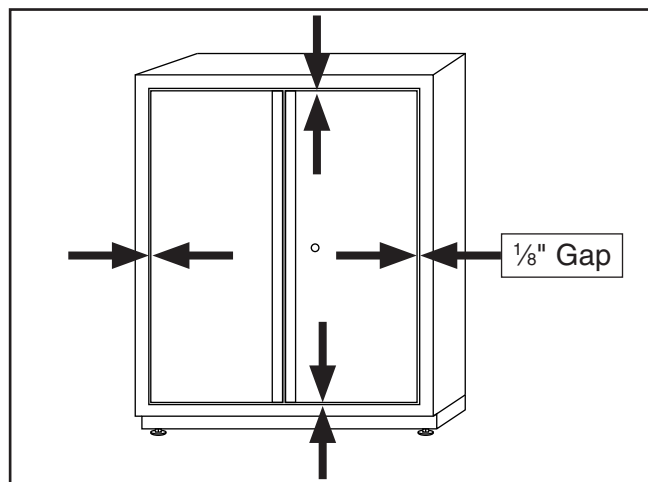

Figure 3. Checking door gap spacing.
1. Close door and visually confirm gap spacing around door edge is $\frac{1}{8}$ " all the way around (see **Figure 3**).